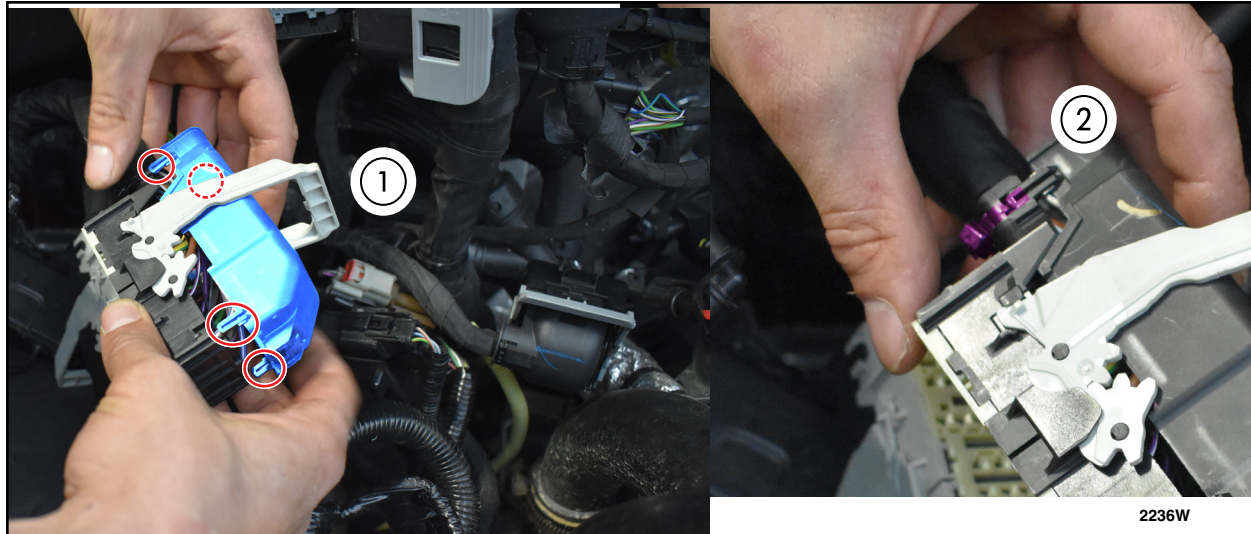

FIGURE 29
34. **Using a small flat-head screwdriver**, remove back shell from 50-way black connector. **There are a total of 4 tabs that will need to be released.** Cut **and remove** zip-tie **from 50-way black connector** (C1035B). See Figure 29.